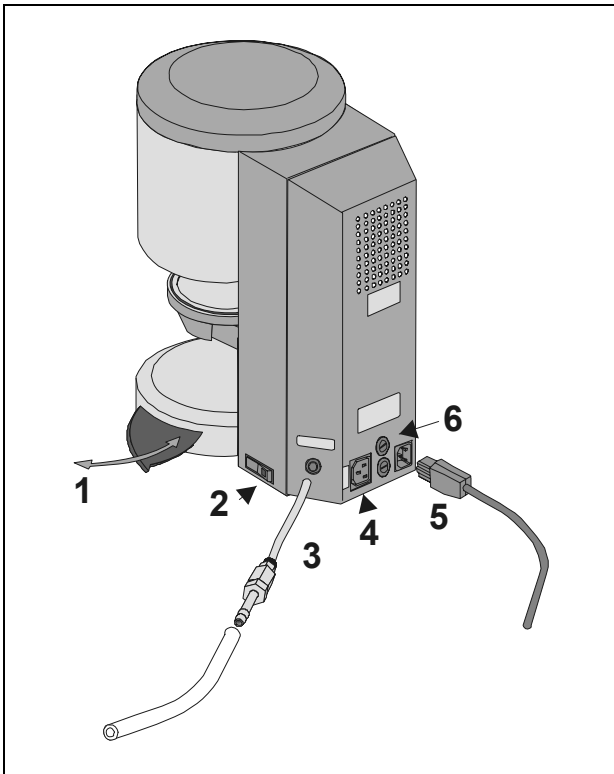

Abb. 1
- Connect the vacuum pump (Abb. 1)
- Use the supplied mains lead to connect the unit to the mains supply (Abb. 1). The connecting cable should be a hot equipment supply lead of type HO5RR-F 3G1,0 mm². Avoid connecting to a multiple socket outlet with extension lead, because there is a risk of fire when overloaded.
If the unit is not used the lift should be retracted into the firing chamber and the unit switched off by the main switch (see Fig. 1, item 2). Closing the firing chamber protects the insulation and prevents the absorption of moisture.